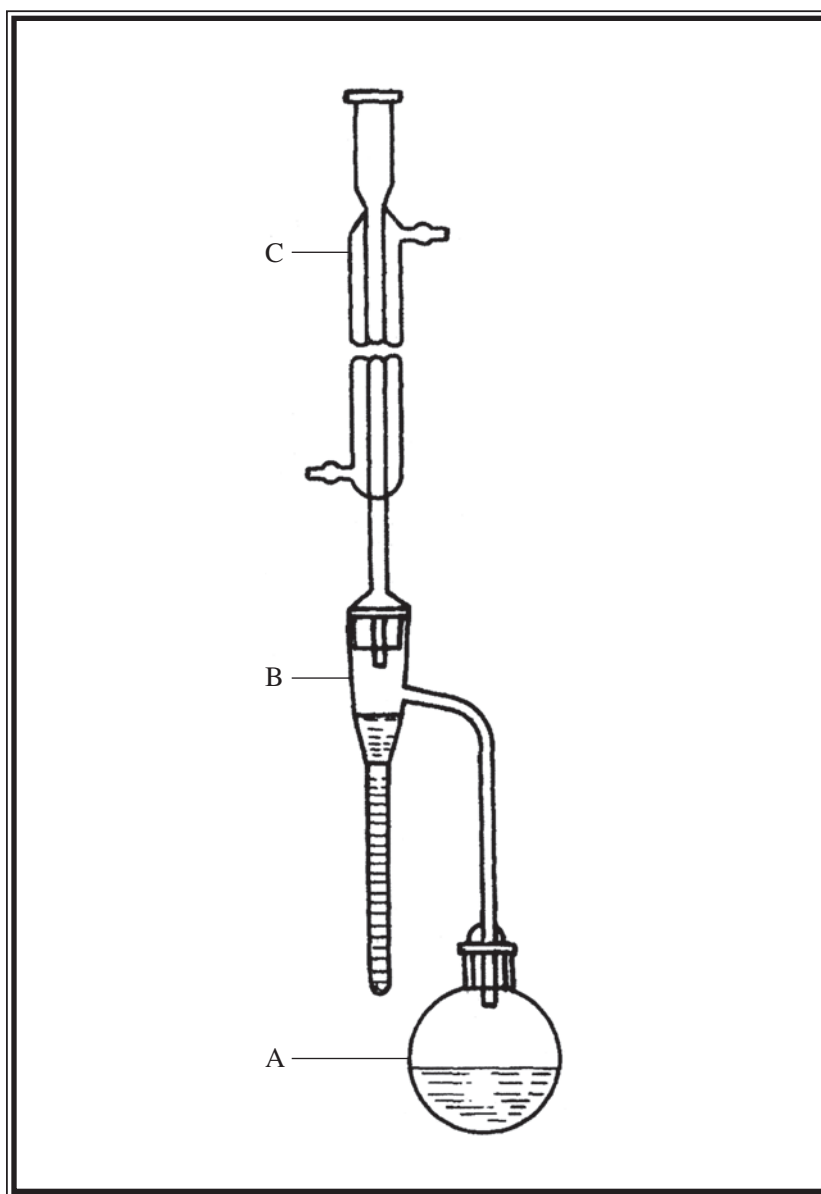

Figure 1 Apparatus for the determination of water content in CMM samples
- (1) **Preparation of test sample** – Prepare a suitable quantity of test sample by cutting (or by using other appropriate means) CMM sample into pieces of less than 3 mm in length or diameter. Flowers, seeds or fruits of length or diameter less than 3 mm, can be used directly for the examination.
- (2) **Reagent** – Toluene used in this method should be saturated with water and distilled.
- (3) **Apparatus** – The apparatus (Fig. 1) consists of a 500-mL round-bottomed flask (A); a graduated receiving tube (B); and a reflux condenser (C) of about 40 cm in length. The apparatus should be cleaned and dried in an oven before being used.
- (4) **Procedure** – Weigh accurately a quantity of the sample which is expected to give 2–4 mL of water, transfer to the flask and add about 200 mL of toluene into it. When necessary, add a few pieces of glass beads. After assembly of the apparatus, fill in the narrow part of the receiving tube with toluene through the condenser, then heat the flask gently by using an electric heater or other appropriate means. When the toluene begins to boil, adjust the temperature to allow the distillation proceed at a rate of 2 drops per second until the water has been completely distilled. Rinse the inside of the condenser with toluene. Continue the distillation for five more minutes, then remove the apparatus away from the heat and allow it to cool to room temperature. Disconnect the apparatus and dislodge any droplets of water that adhere to the wall of the receiving tube.